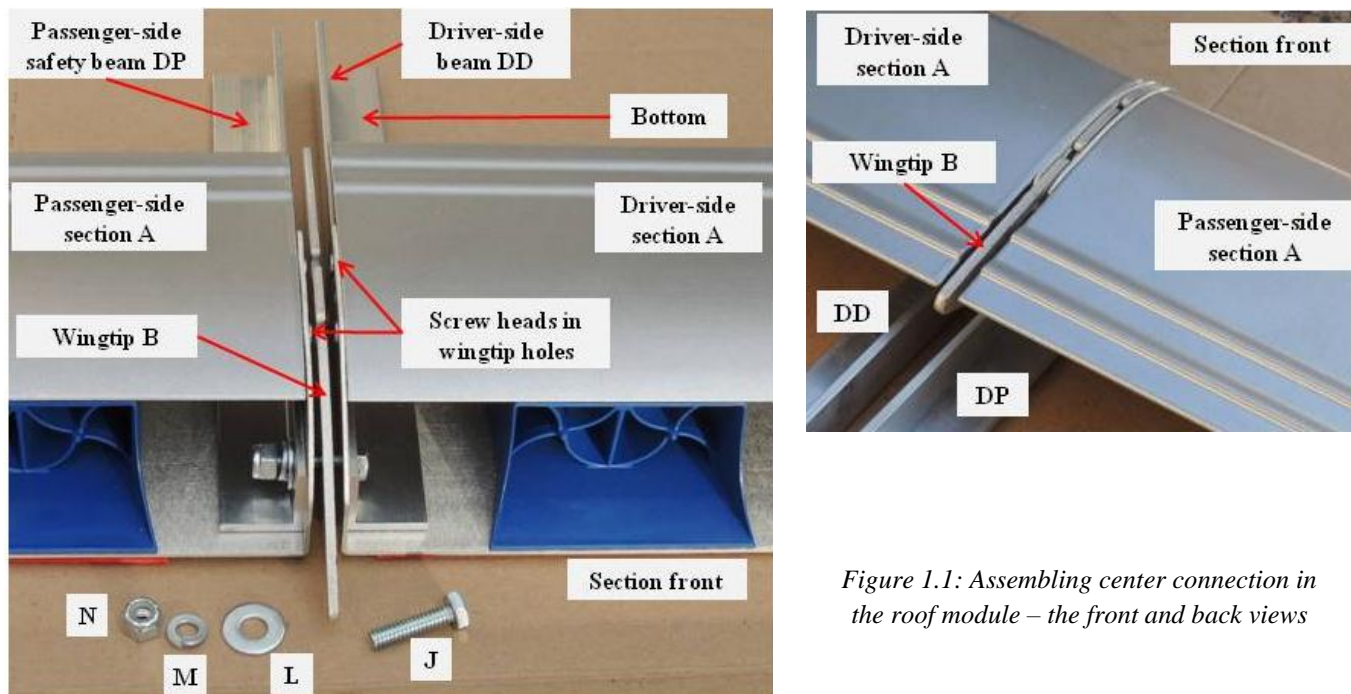

Figure 1.1: Assembling center connection in the roof module – the front and back views
1.1.1: Connecting two sections with a wingtip and two safety beams - the major parts to be connected are shown in Figure 1.1.
1.1.1.1: Place wingtip B vertically between two sections A, the wingtip front towards the section fronts, and hand-press tightly the sections together. Make sure that the conical screw heads on the top of the sections are inserted inside the appropriate holes in the wingtip as shown in Figure 1.1.
1.1.1.2: Place a driver-side beam DD in the driver-side section, the beam bottom lays on the section bottom plate; Figure 1.1.
1.1.1.4: Insert two long bolts J through the holes in safety beams DD and DP, sections A and a wingtip B as shown in Figure 1.1.
1.1.1.5: Put flat washers L, lock washers M and lock nuts N on the bolt ends as shown in Figure 1.1.